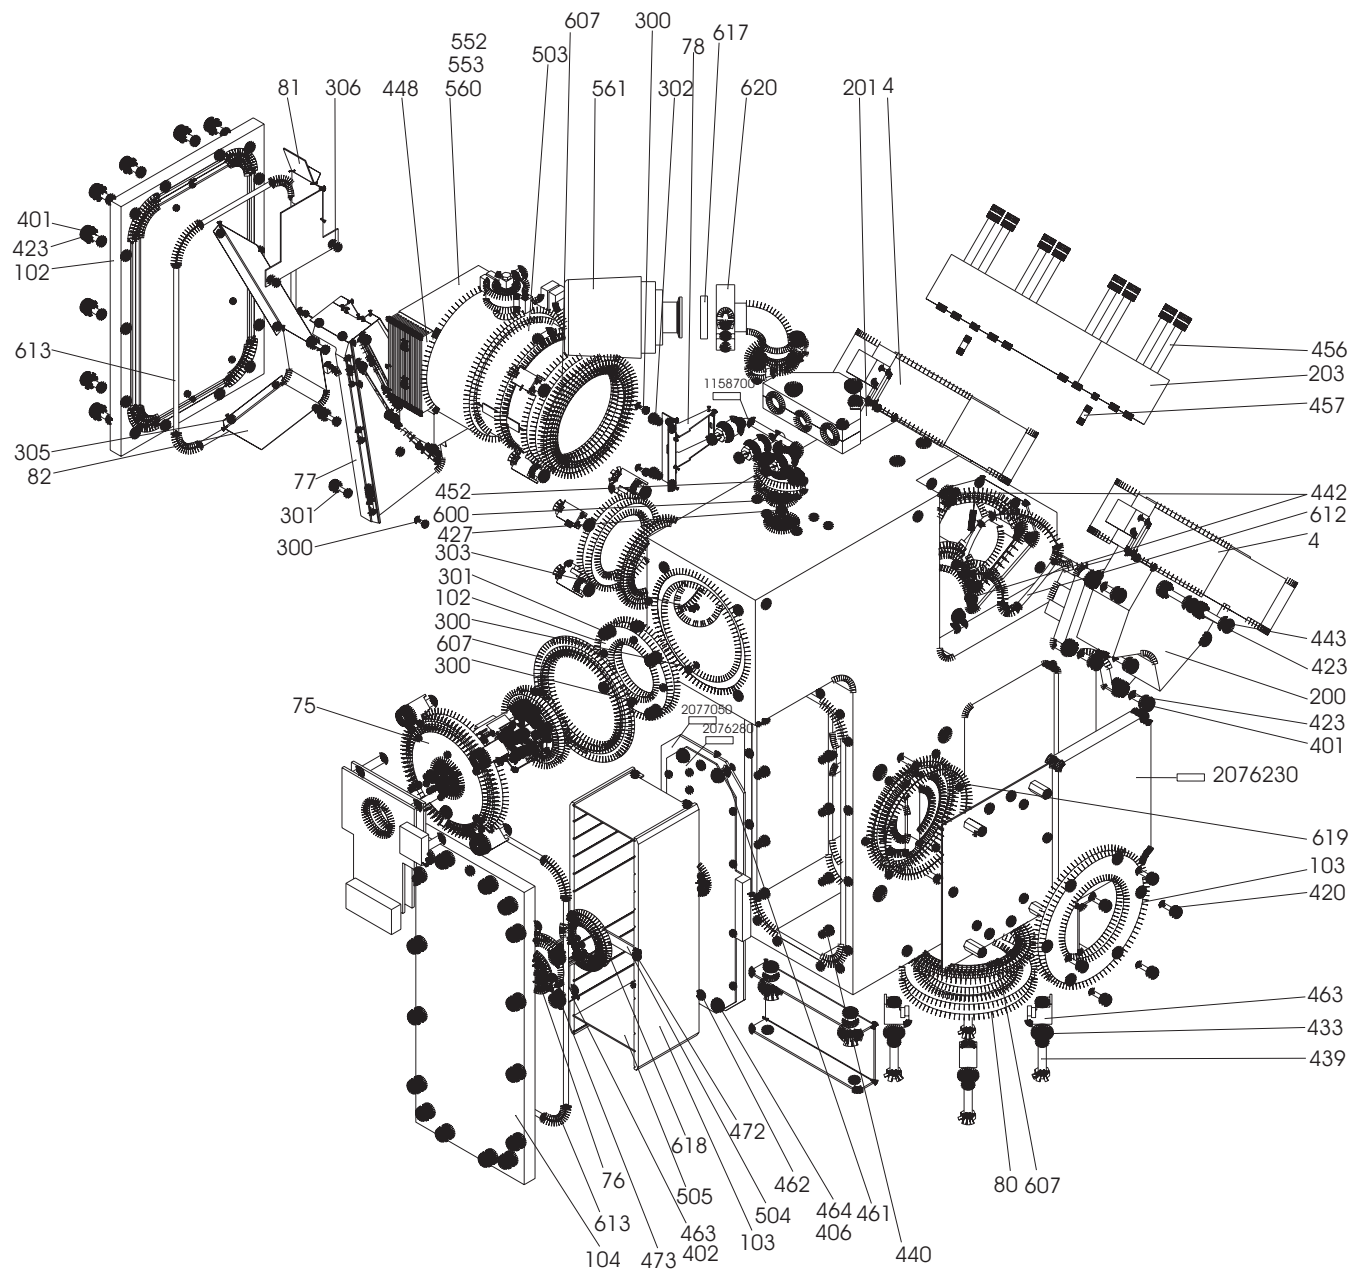

Figure 9-2. Analyzer (Part No. 115 9000)
The parts of the analyzer occurring in Figure 9-2 are not merged into one all-embracing parts list. Rather, the analyzer parts belong to various sub-units. Each sub-unit has a parts list of its own according to Table 9-11.
* Refer to Figure 9-2.
Mechanical kit of basic unit, Part No. 115 8300, comprises the parts 75-99 in Figure 9-2. The most important of them are summarized in Table 9-12.
Analyzer kit, Part No. 118 8580, comprises the parts 100-149 in Figure 9-2. The most important of them are summarized in Table 9-13.
^{*} Refer to Figure 9-2.
Magnet kit, Part No. 118 8560, comprises the parts 200-249 in Figure 9-2. The most important of them are summarized in Table 9-14.
Mounting parts (vacuum), Part No. 115 8310, comprises the parts 300-349 in Figure 9-2. The most important ones are summarized in Table 9-15.
Vacuum kit of amplifier, Part No. 116 9500, comprises the parts 350-399 in Figure 9-2. The most important of them have already been summarized in Table 9-7.
Mounting parts, Part No. 115 8510, comprises the parts 400-499 in Figure 9-2. They have already been summarized in Table 9-6.
Mounting kit, Part No. 116 9500, comprises the parts 500-549 in Figure 9-2. The most important of them are summarized in Table 9-16.
Pumps and devices, Part No. 115 8530, comprises the parts 550-599 in Figure 9-2. The most important of them are summarized in Table 9-17.
Vacuum kit, Part No. 118 8090, comprises the parts 600-649 in Figure 9-2. They have already been summarized in Table 9-4.
Differential pump module, Part No. 117 5730, comprises the parts 650-699 in Figure 9-2. They have already been summarized in Table 9-8.